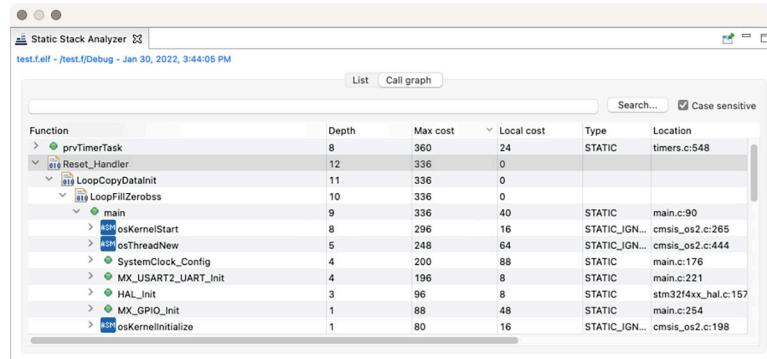

Figure 24.18: The Call Graph tab in the Static Stack Analyzer view
- The **Call Graph** tab (see **Figure 24.18**) contains detailed program information in a tree view. Each function included in the program but not called by any other function is presented at the top level. It is possible to expand the tree to see called functions. Only functions available in the ELF file can be visible in the tab. When used, the **Search...** button triggers the display of the functions matching the characters in the search field. The search can be made case sensitive or not depending on the selection in checkbox **Case sensitive**. The small icon left of the function name in column **Function** column indicates the following: